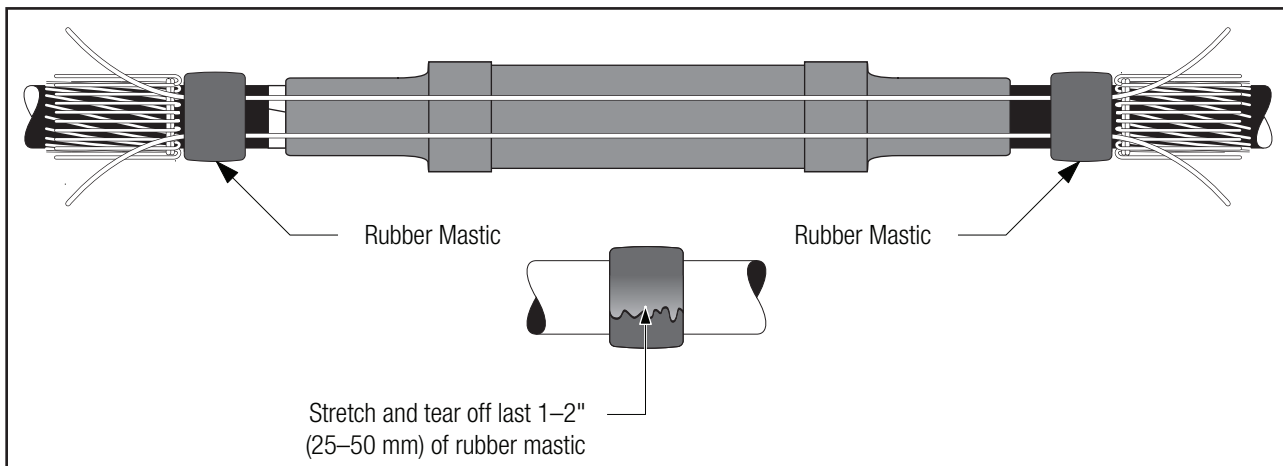

Figure 29
8.1.3 Apply one roll of slightly stretched rubber mastic tape over each mastic strip (tacky side towards cable). Stretch and tear off the end of the rubber mastic as shown (*Figure 29*).